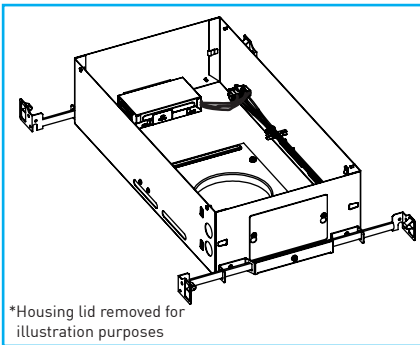

Fig.50
- Driver assembly is accessed through housing aperture. With trim removed on flanged installations or LED engine removed on trimless installations, pull on sleeved wires to release driver assembly *"Fig.50"*.
- Pull on sleeved wires to release driver assembly *"Fig.50"*.